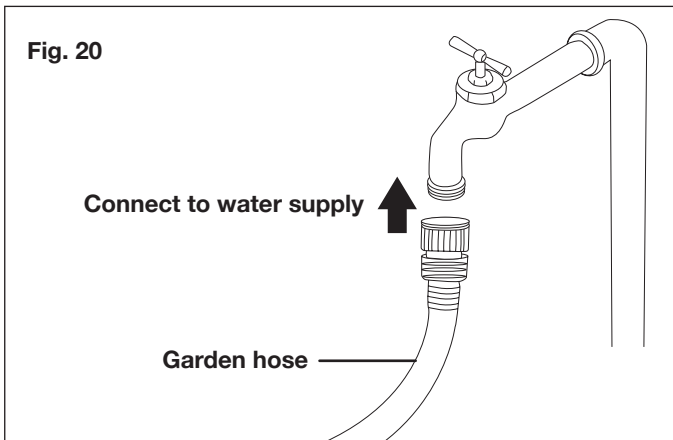

Fig. 20
7. Attach garden hose to water supply (Fig. 20).